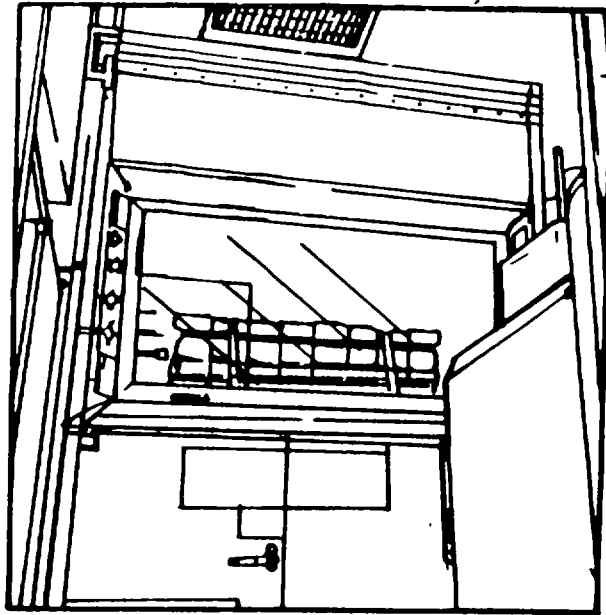

Figure 1- 18. Fume Hood
d. The fluids contamination set (Figure 1 -11) is capable of extracting metallic and nonmetallic particulate matter from used oil samples for microscopic examination. The set requires the presence of a vacuum to expedite the participation process. Normally stored within the cabinet K3, this unit is positioned on the curbside countertop next to the waste oil drain when deployed.
e. The drying oven (Figure 1- 12) and hot plate set (Figure 1- 13) are comprised of a mechanical convection oven and an explosion-proof hot plate. The oven is used to dry samples from the filter blotter test and the hot plate is used during the crackle test. The maximum operating temperature of the oven is 260 degrees Centigrade with a consistency of plus or minus 4 degrees C. The oven is permanently installed against the forward, curbside bulkhead. The hot plate is stored in cabinet K2 and used in the fume hood when deployed.